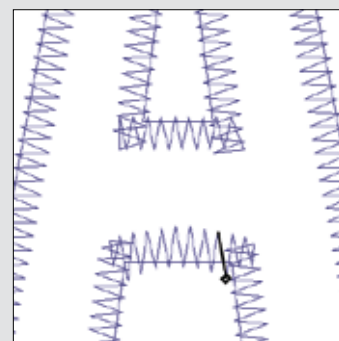

Figure 28. The bottom stitches will align in an arc after editing.
3. Drag the end point so that it looks like the **Figure 28**.